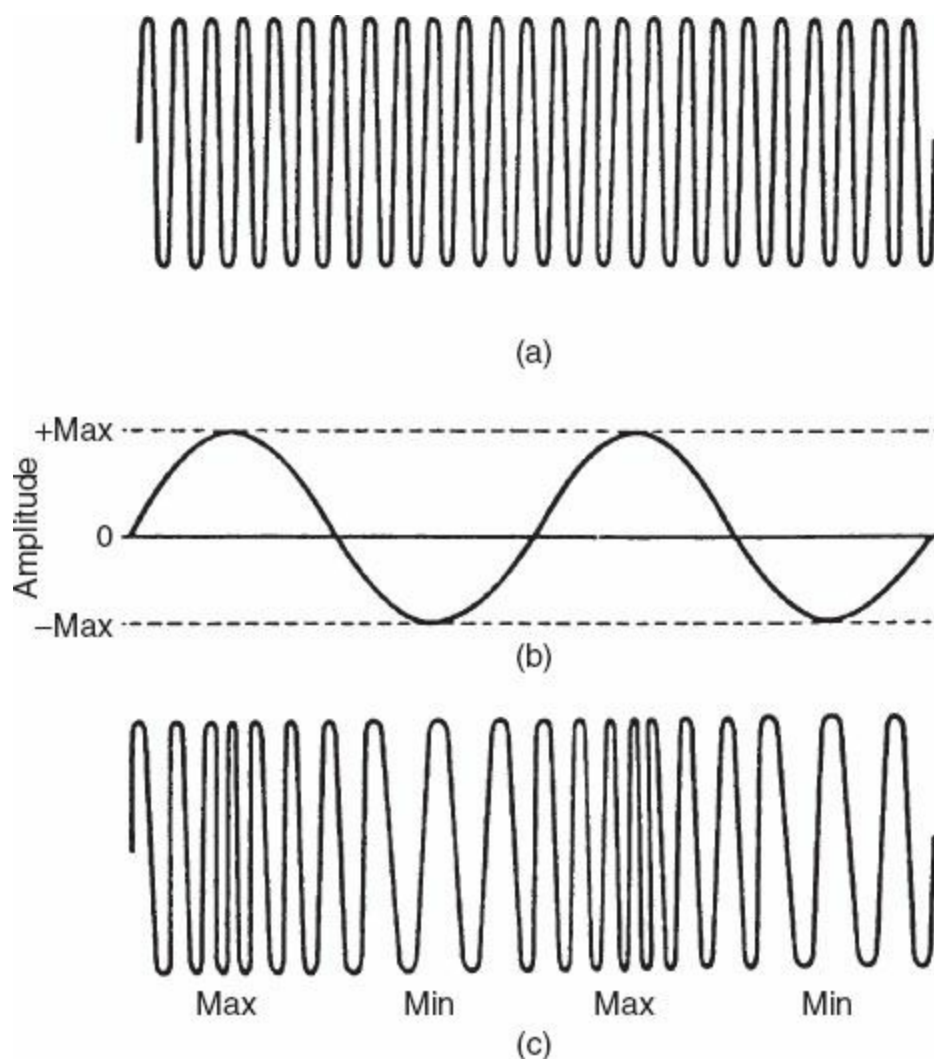

FIGURE 6.3 Frequency modulation principle—an audio wave mixed with a carrier wave, producing frequency variations.
The frequency modulation (FM) technique of transmission begins with an rf carrier wave and an audio frequency called the modulating signal. When the rf carrier is modulated with the audio signal, the frequency of the rf carrier varies with the amplitude of the modulating signal. Figure 6.3 illustrates the principles of frequency modulation.